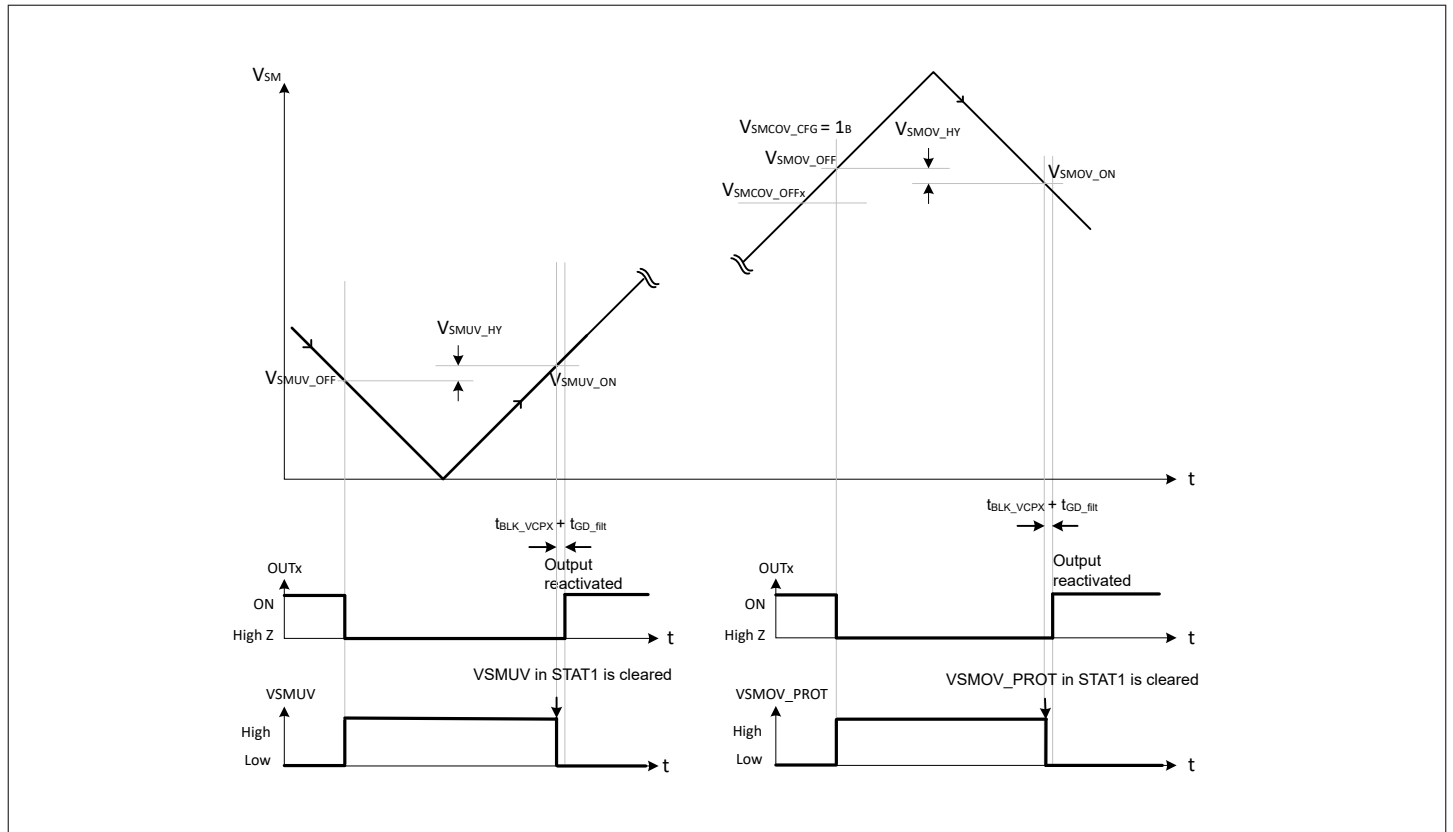
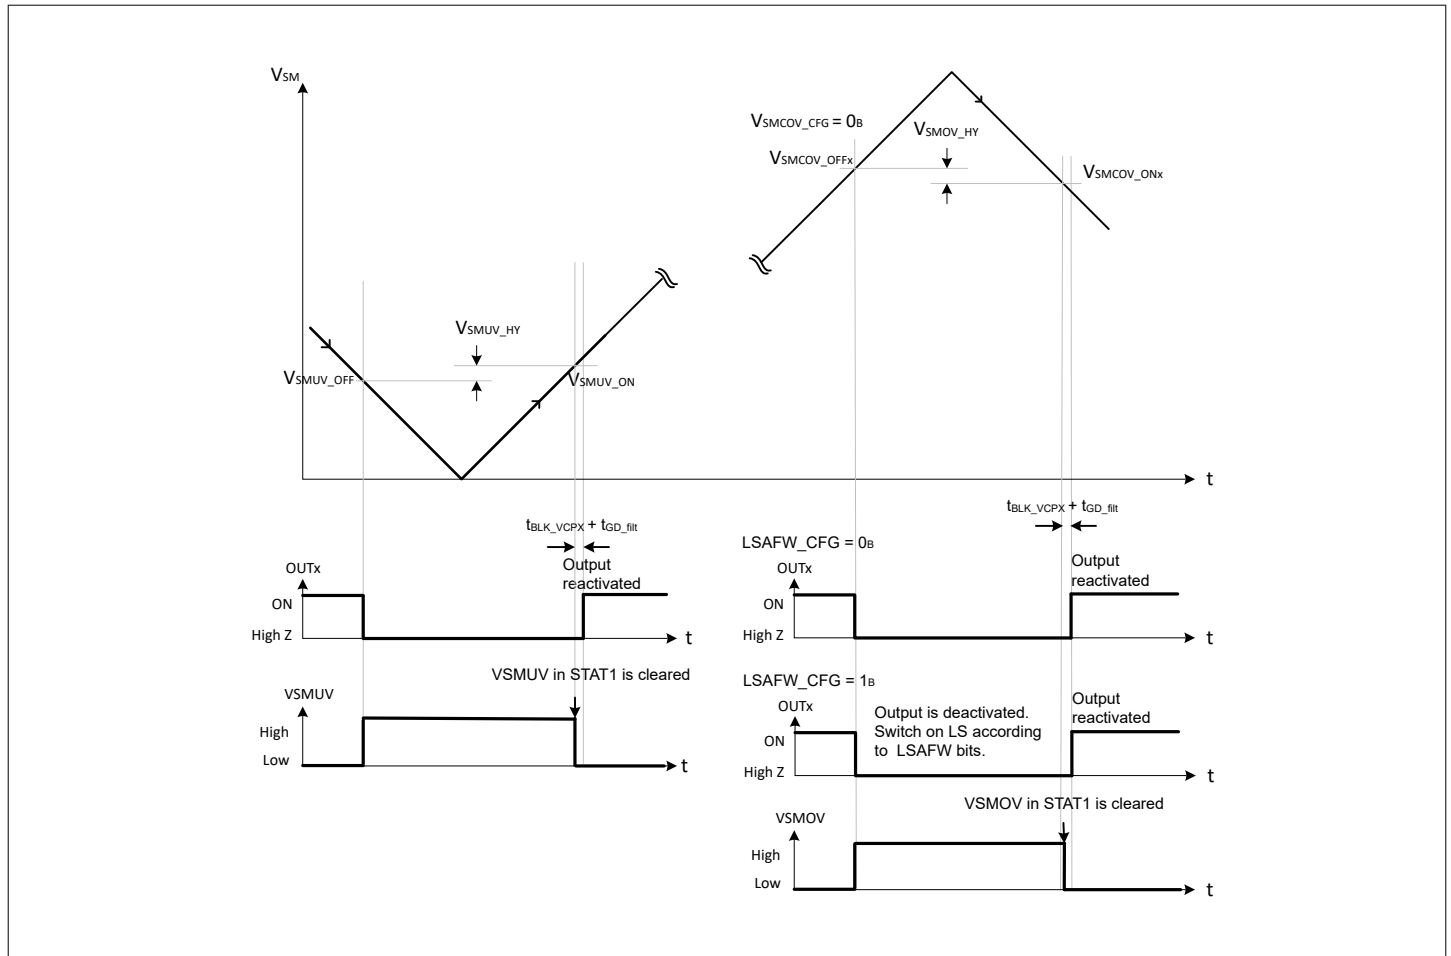

Figure 9 VSM monitoring
Figure 10 Configurable VSM monitoring
If VSM rises above V_{SMUV_ONx} as shown in Figure 9, after clearing the VSMUV bit the device resumes normal operation when t_{BLK_VCPx} and t_{GD_filt} expire.
- $V_{SM} > V_{SMUV_ONx}$ (see Figure 9)
If VSM drops below $V_{SMOV_ON} / V_{SMCOV_ONx}$ as shown in Figure 9 and Figure 10, after clearing VSMOV_PROT bit and VSMOV bit the device will resume normal operation when t_{BLK_VCPX} and t_{GD_filt} expires.
- $VSM < V_{SMOV_ON}$ or $VSM < V_{SMCOV_ONx}$ when VSMOV_CFG is 0_B (see Figure 9 and Figure 10)